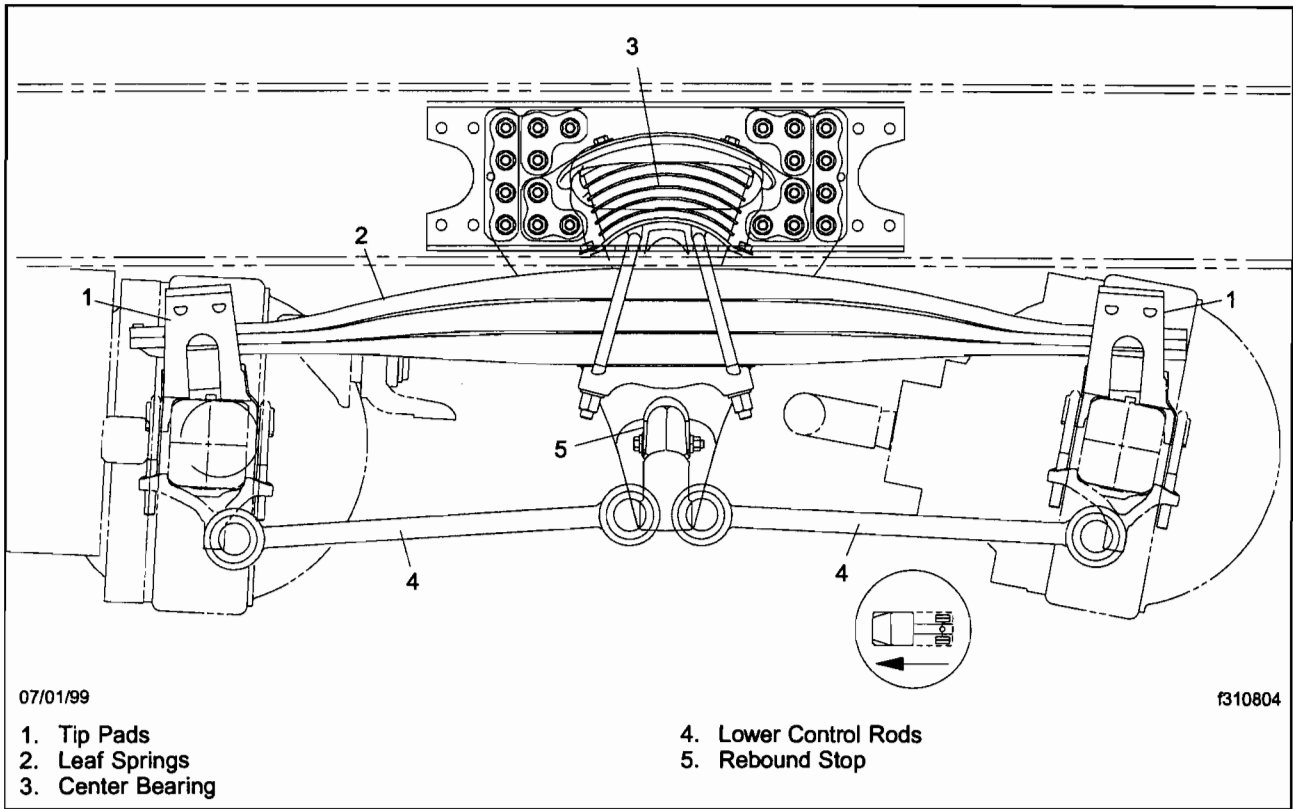

Fig. 5, TufTrac Suspension (46,000-pound [20 865-kilogram] version shown)
3. Remove the nut and bolt that secures the rebound stop to the mounting bracket and slide the rebound stop from the mounting bracket. See **Fig. 5**.